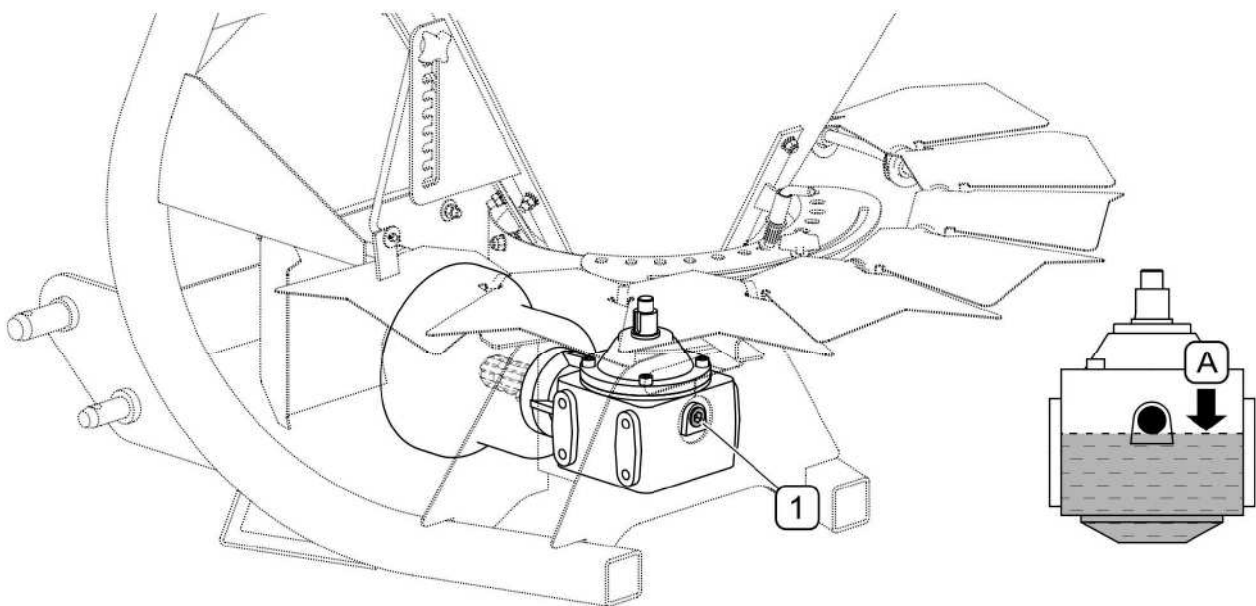

FIG. 5.1 Checking and change of oil in intersecting axis gear
- unscrew inlet plug (1) (FIG. 5.1),
- oil level (A) should reach the lower edge of the plug opening (1),
- if necessary, supplement oil to the required level (A),
- unscrew plug (1) (FIG. 5.1)
- set the machine horizontally and supplement oil to the required level (A) ,
- tighten plug (1).